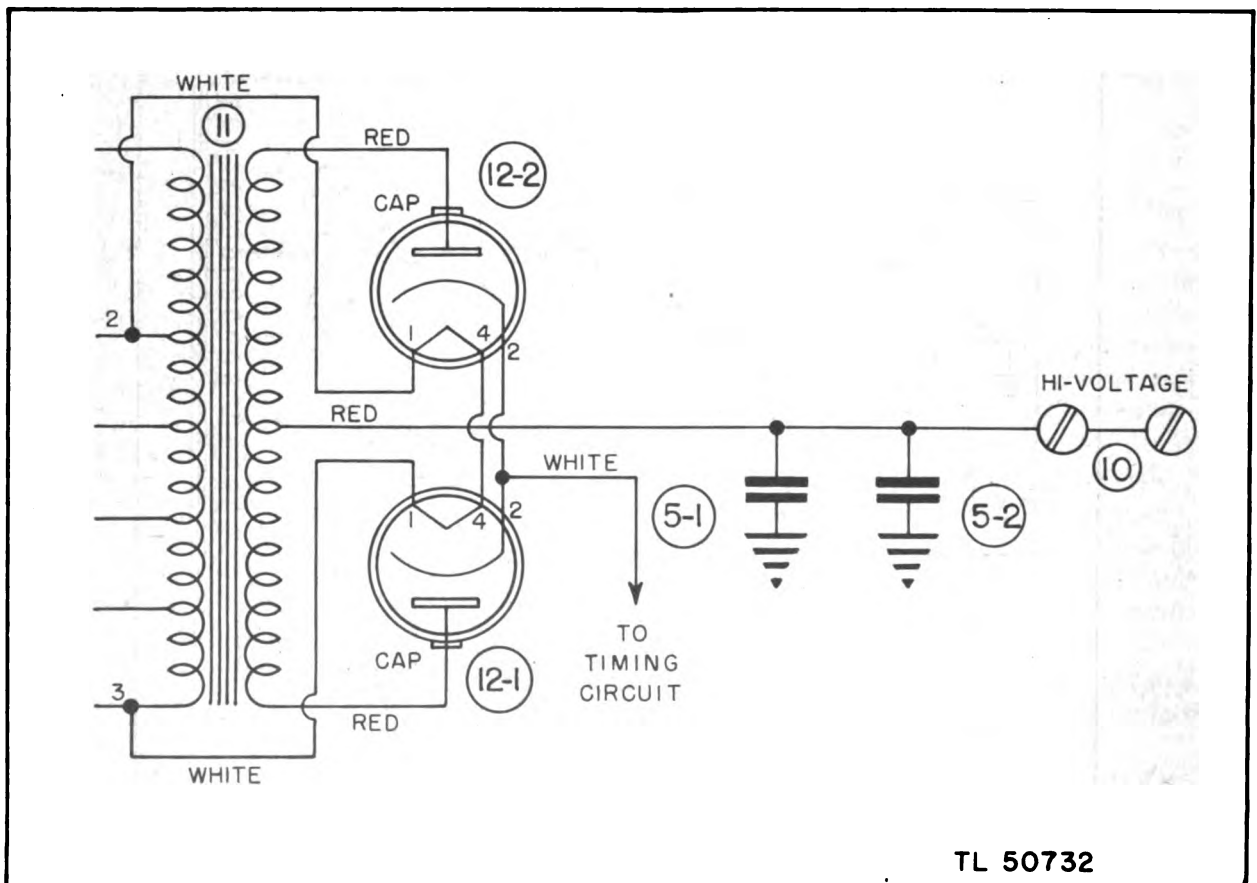

Figure 14. High-voltage secondary circuit, Voltage Converter PP-49/VVX-1.
(2) A 1-mfd, 165-volt a-c capacitor (2-2) serves as the buffer and is connected to the ends of the transformer primary winding.
(3) A 0.5-mfd, 50-volt d-c capacitor (4) is the input RF filter capacitor.
(4) Another 1-mfd, 165-volt a-c capacitor (3-1) and a 5-ohm, 1/2-watt resistor (14) serve as the vibrator driver-point suppressors and provide improved vibrator operation.
(5) Another 1-mfd, 165-volt a-c capacitor (2-1) serves as the primary buffer.
b. High-voltage Secondary Circuit (fig. 14).